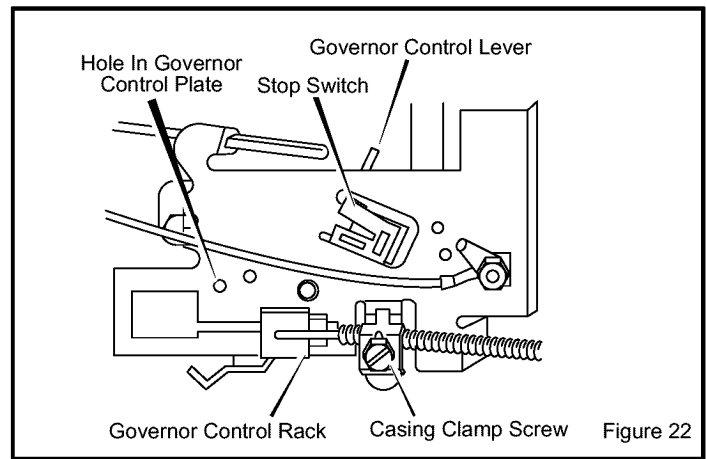

Figure 22
2. The hole in the **governor control lever** (located just behind governor control plate) must align with the **hole in the governor control plate** (see Figure 22).